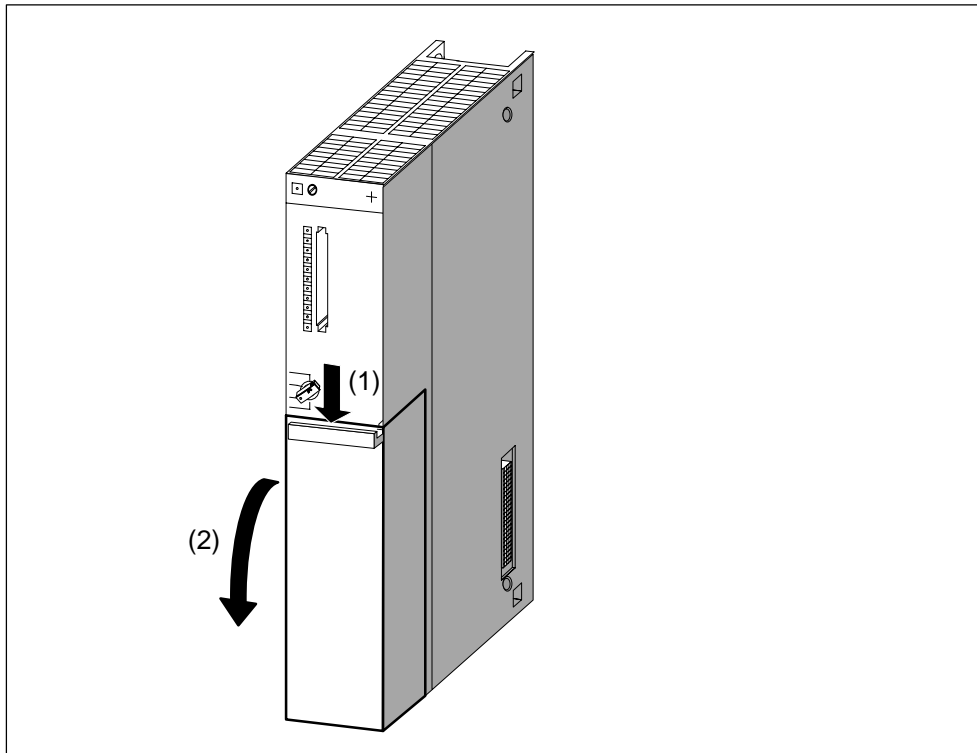

Figure 8-22 Removing the Cover
4. Remove the covers from the modules, if applicable. Figure 8-22 shows how to remove the cover.
- Press the locking lever down (1).
- Swing the cover forward and off (2).